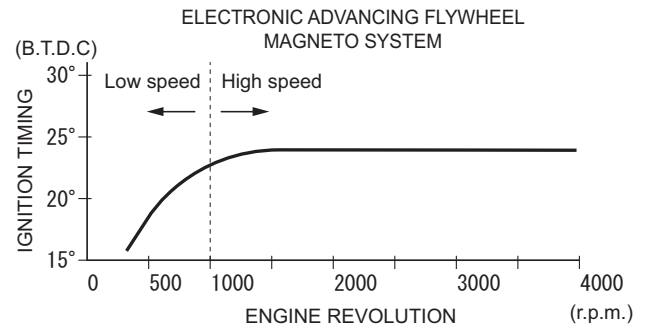

Fig.8-2
- (b) At lower engine revolution, when the flywheel reached the ignition point the low speed ignition timing control circuit (3) operates to run the base current I_3 to turn the signal transistor (4) "ON" allowing the current I_1 to bypass as current I_4 . At this moment the power transistor (2) turns "OFF" and the current I_2 is abruptly shut resulting in the high voltage generated in the secondary coil (5) which produces sparks at the spark plug.
- (c) At higher engine revolution, the advancing control circuit (6) operates at the ignition timing to run the base current I_5 to turn the signal transistor (7) "ON" allowing the current I_1 to bypass as current I_6 . At this moment the power transistor (2) turns "OFF" and the current I_2 is abruptly shut resulting in the high voltage generated in the secondary coil (5) which produces sparks at the spark plug. The operating timing of the advancing control circuit advances in accordance with the increase of engine speed resulting in the advancing of ignition timing as shown in Fig. 8-2.